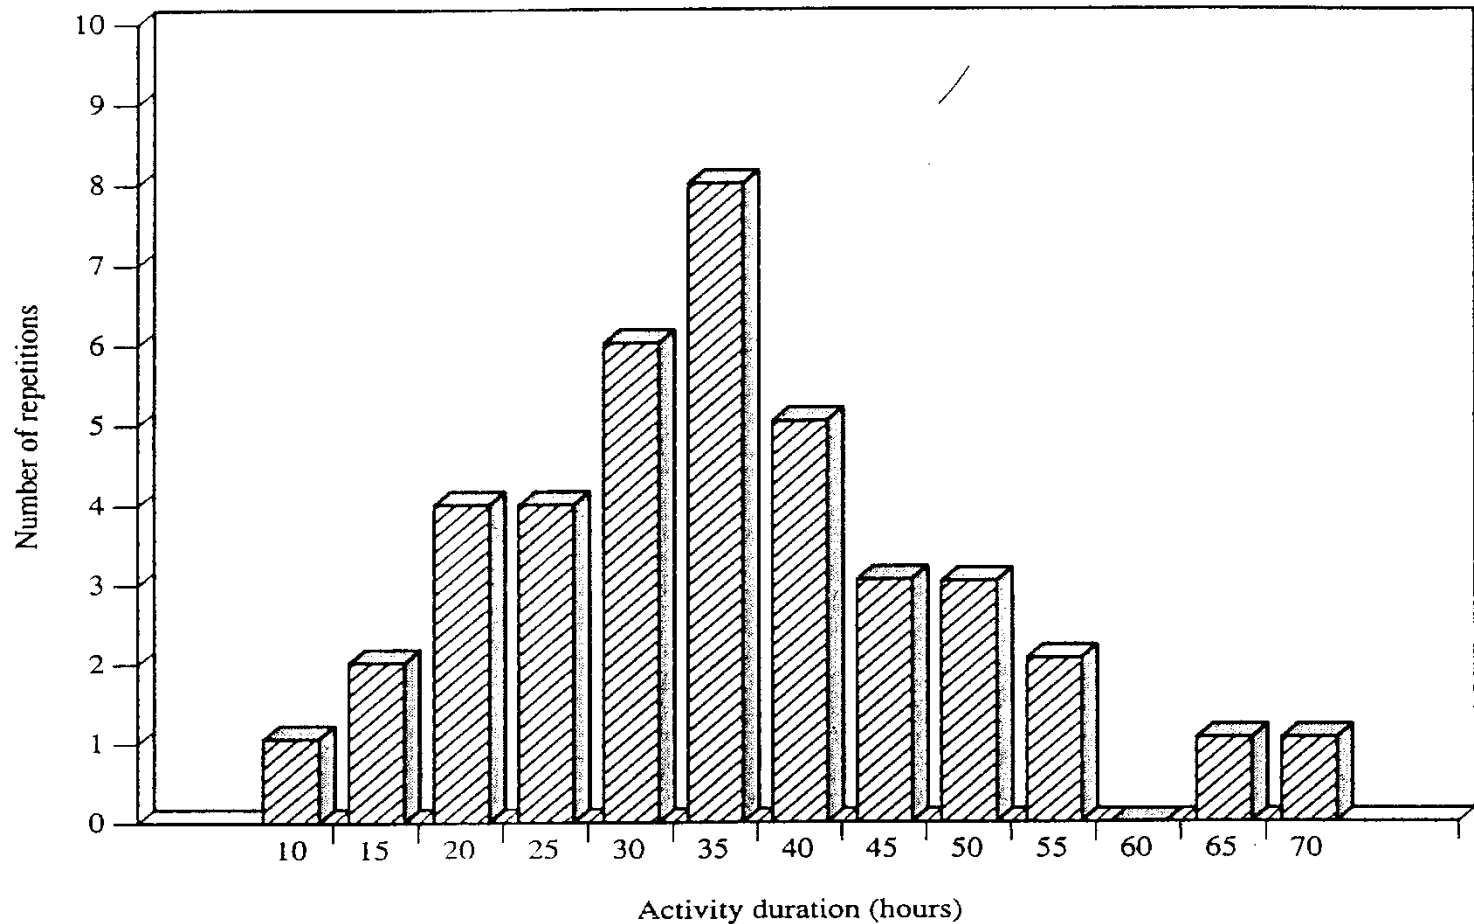

Fig 1. Frequency distribution of activities
- For our example (Figure 1), we have  $a = 10, b = 70, m = 35$ .